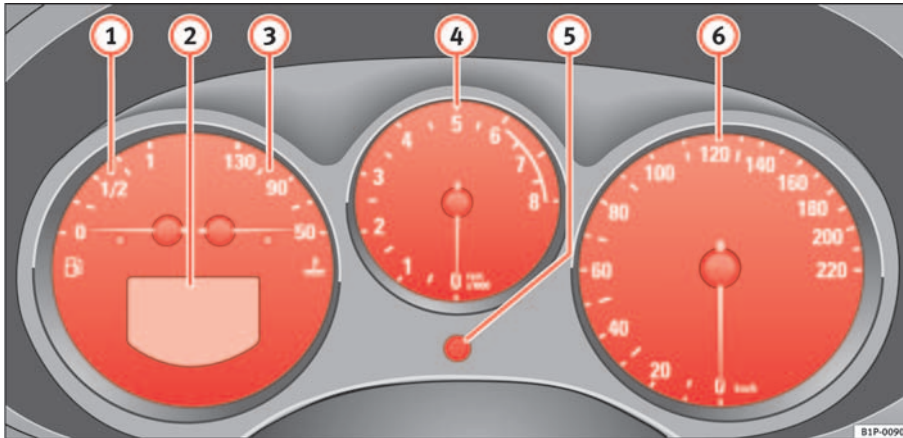

Fig. 33 Detail of the dash panel: Instruments
The start of the red zone on the dial ⇒ page 56, fig. 33  indicates the maximum engine speed which may be used briefly when the engine is warm and after it has been run-in properly. However, it is advisable to change up a gear or move the selector lever to D (or lift your foot off the accelerator) before the needle reaches the red zone.
- Turn the setting knob ⇒ page 56, fig. 33  anti-clockwise to the stop to set the hour. If the knob is turned briefly anti-clockwise the clock will advance one hour further.
The right-hand counter registers the short journeys. The last digit indicates steps of 100 metres. The trip recorder counter may be reset by the reset button ⇒ page 56, fig. 33 ⑤.